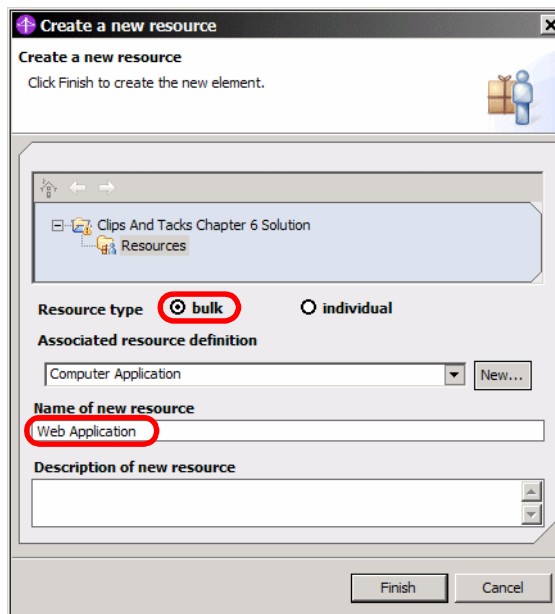

Figure 6-5 Create resource dialog
- ▶ In the dialog (Figure 6-5), enter the name *Web Application*, select *Computer Application* for Associated resources definition, select *bulk* as Resource type, and click *Finish*.